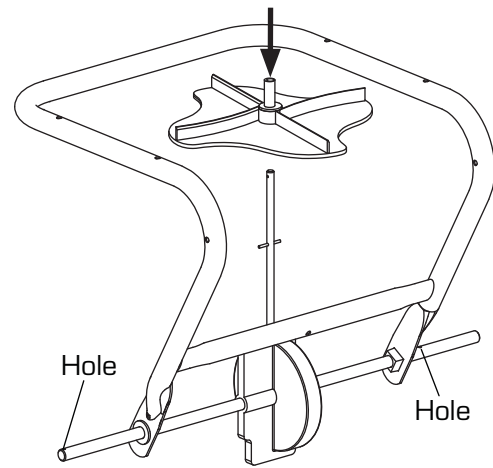

Figure 1
1. Install spinner to spinner shaft. Press down on spinner until it snaps into place on the roll pin, Figure 1.
2. Install axle/transmission assembly into frame as shown, Figure 1. **IMPORTANT!** Note the orientation of the axle/transmission assembly is critical. See the hole locations in Figure 1. One side has hole near the end of the axle, the other next to the frame.
3. Slide the axle bearings over the axle and into place in the frame, Figure 1.